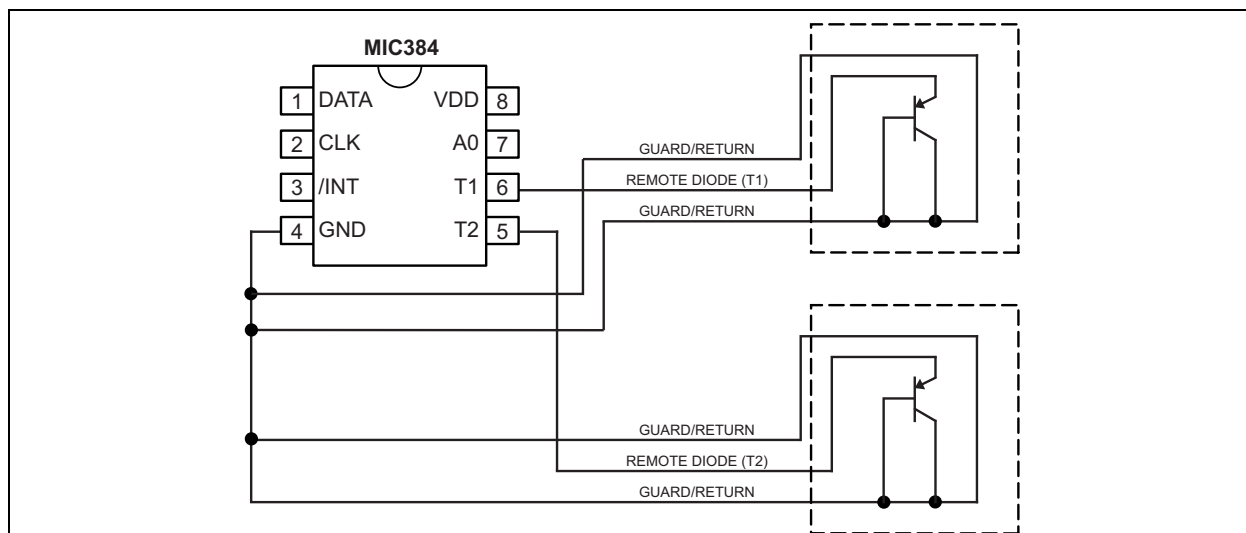

FIGURE 5-1: Guard Traces/Kelvin Ground Returns.
2. Because any conductance from the various voltages on the PC Board to the T1 or T2 line can induce serious errors, it is good practice to guard the remote diode's emitter trace with a pair of ground traces. These ground traces should be returned to the MIC384's own ground pin. They should not be grounded at any other part of their run. However, it is highly desirable to use these guard traces to carry the diode's own ground return back to the ground pin of the MIC384, thereby providing a Kelvin connection for the base of the diode. See Figure 5-1.
3. When using the MIC384 to sense the temperature of a processor or other device which has an integral thermal diode, e.g., Intel's Pentium III, connect the emitter and base of the remote sensor to the MIC384 using the guard traces and Kelvin return shown in Figure 5-1. The collector of the remote diode is typically inaccessible to the user on these devices. To allow for this, the MIC384 has superb rejection of noise appearing from collector to GND, as long as the base to ground connection is relatively quiet.